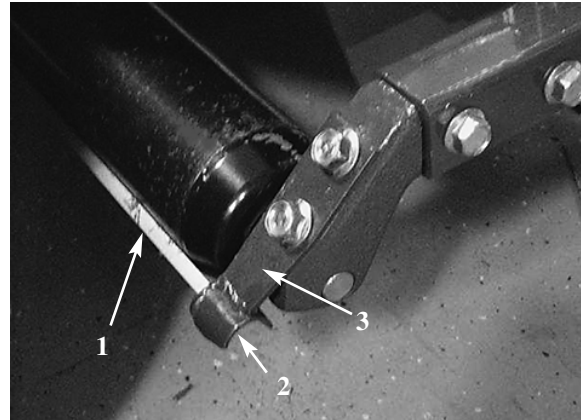

Figure 4
Adjust The Roller Scraper (Fig. 4)
1. Loosen the locknut securing one end of the roller scraper rod to the mounting bracket (Fig. 4). There should be approximately 0.13–0.51mm end play in the loosened rod.